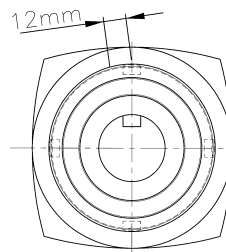

Figure 8
14. Place a second mark on the body 12mm back from the point of zero clearance. Refer Fig 8